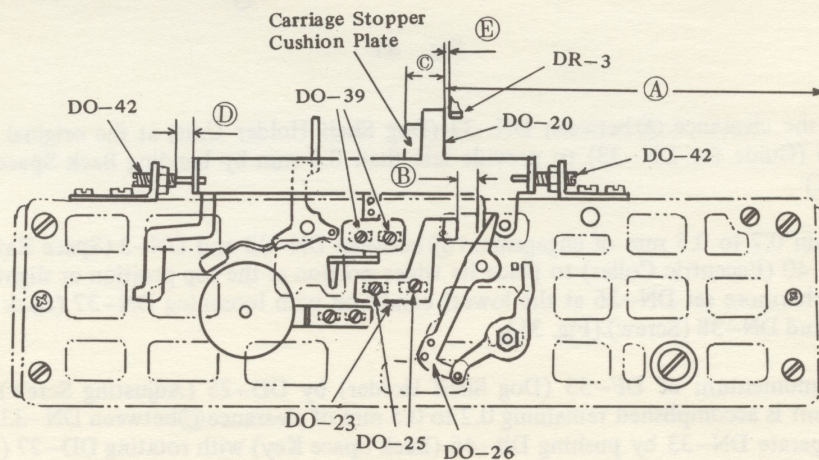
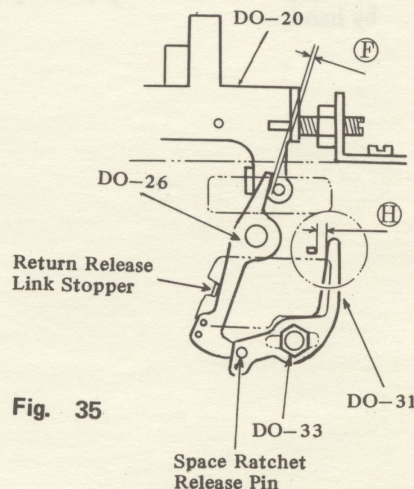

Fig. 32
Fig. 35
- (1) Adjust the dimension ① between the edge of the Chassis and DO-20 (Carriage Stopper) to obtain 132.1 mm with DO-42 (Center Screw). (Fig. 32)
- (2) Adjust the position of DO-23 (Stopper: A for DO-20) by loosening DO-25 (Screw) so as to obtain the clearance ② between DO-20 and DO-23 as 3.5 mm for Pica type and 3.0 mm for Elite type. (Fig. 32)
- (3) Adjust the position of Carriage Stopper Cushion Plate by loosening DO-39 (Screw) so as to obtain the dimension ③ between DO-20 and Carriage Stopper Cushion Plate as 12.5 mm for Pica type and 11.0 mm for Elite type. (Fig. 32)
- (4) Adjust by DO-42 to obtain 5.0 mm of clearance ④ between DO-20 and DO-42. (Fig. 32)
- (5) Adjust the clearance ⑤ between DO-20 and DR-3 (Margin Stopper: left) by shifting the position of DR-4 (Margin Rack) left and right to obtain 0 to 0.3 mm. (Fig. 32)
- (6) Adjust the clearance ⑥ between DO-20 and DO-26 (Return Release Link: A) to obtain 0.1 to 0.2 mm with bending the Return Release Link Stopper portion.
In this case, excessive clearance ⑥ may result a bad condition in returning of Release, and no clearance may result maloperation of DO-20 at Margin Stop. (Fig. 35).